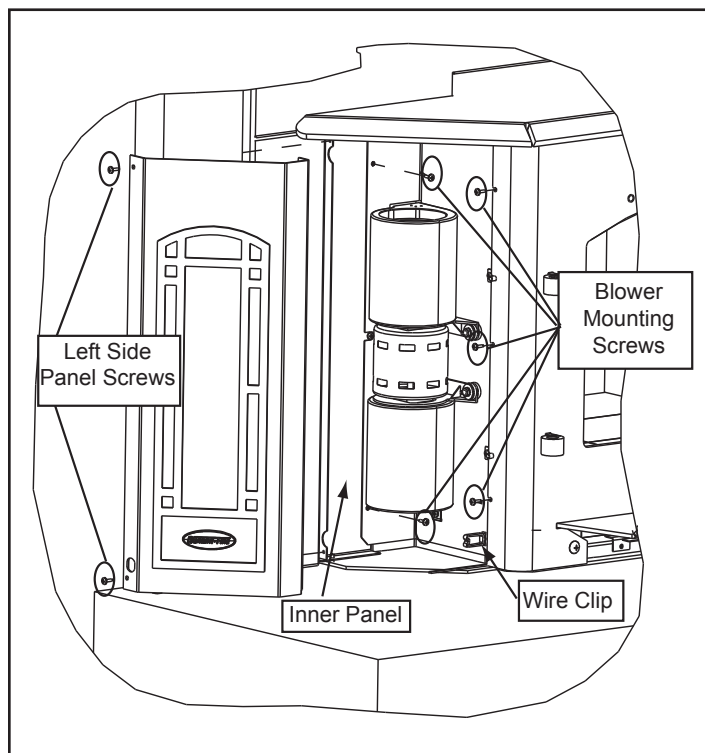

Figure 22.1
2. Slide blower mount with blower attached behind the face and secure with 5 screws provided, 3 on the right side and 2 on the left. **Figure 22.1.**